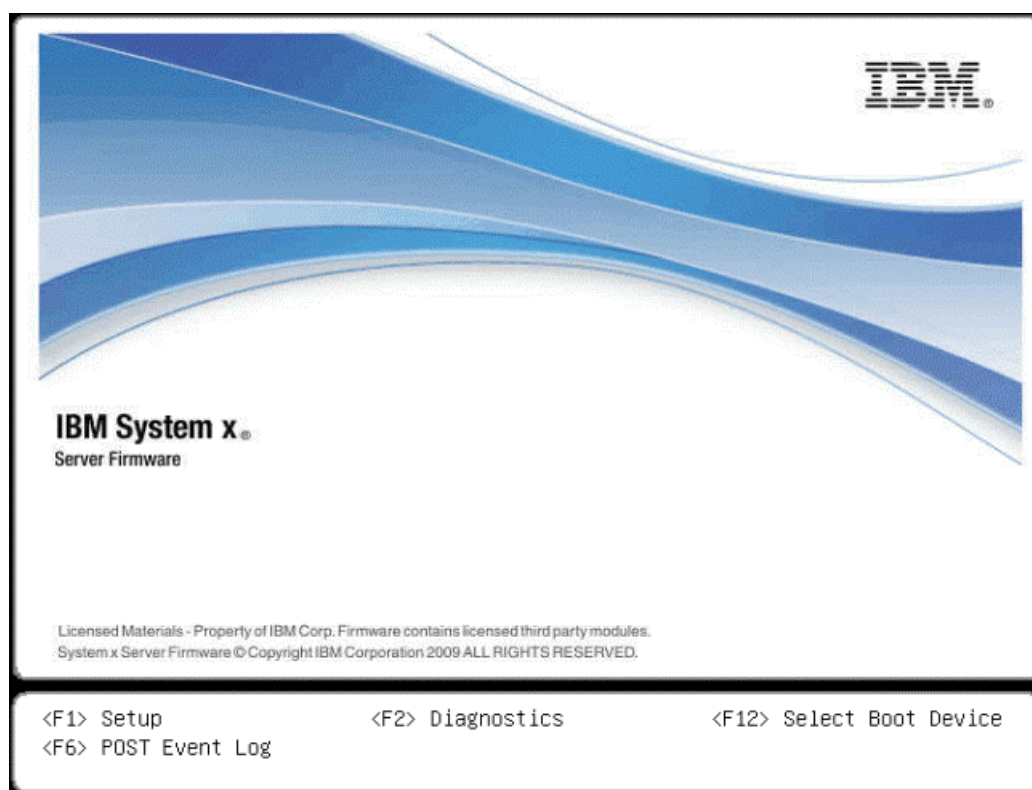
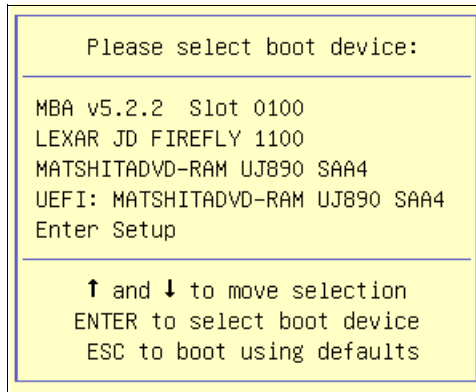

Figure 3-25 F12 to select Boot Device
Figure 3-26 Select DVD to install OS
18. Press F12 to select the boot device, then select the CD/DVD ROM (or appropriate source) to install the operating system, as shown in Figure 3-25 and Figure 3-26.